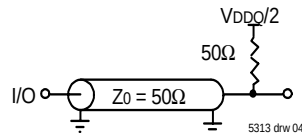

Figure 1. AC Test Load
| AC Test Load                   | See Figure 1  |
4. These parameters are guaranteed with the AC load (Figure 1) by device characterization. They are not production tested.